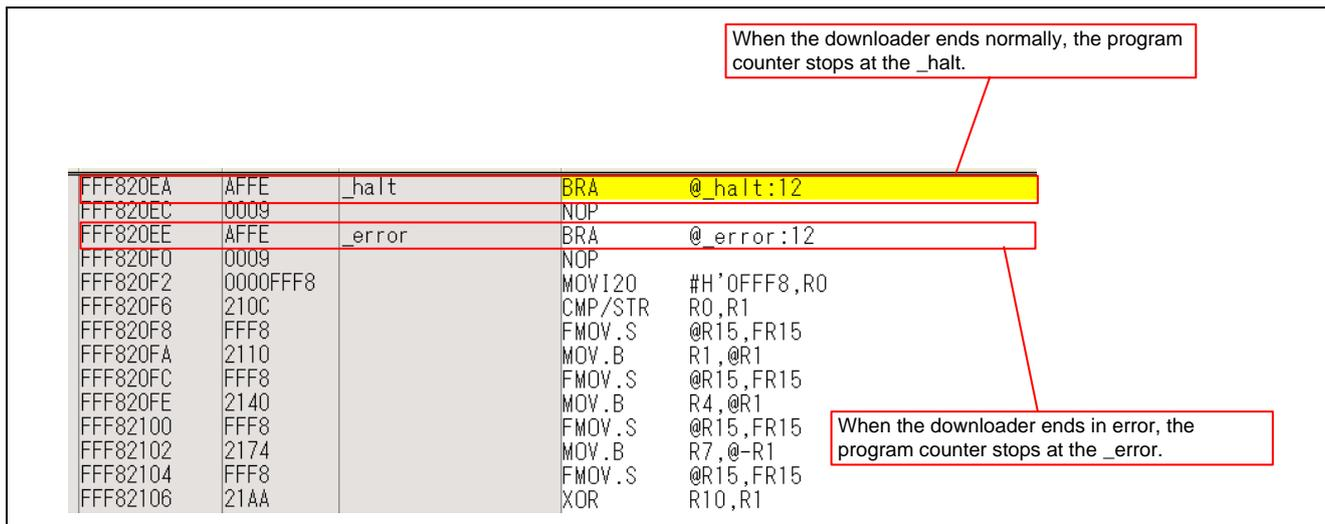

Figure 19 High-performance Embedded Workshop Window When the Downloader Ends
7. When the batch file [downloader.hdc] is executed, all of the download modules registered in the workspace (loader program, application program, and downloader) are transferred to RAM to execute the downloader. As shown in Figure 19, the program counter stops at the _halt, when the downloader ends normally. The program counter stops at the _error, when the downloader ends in error. A source file may appear when the [sh7269_spibsc_downloader] workspace directory is copied in C:\Workspace.